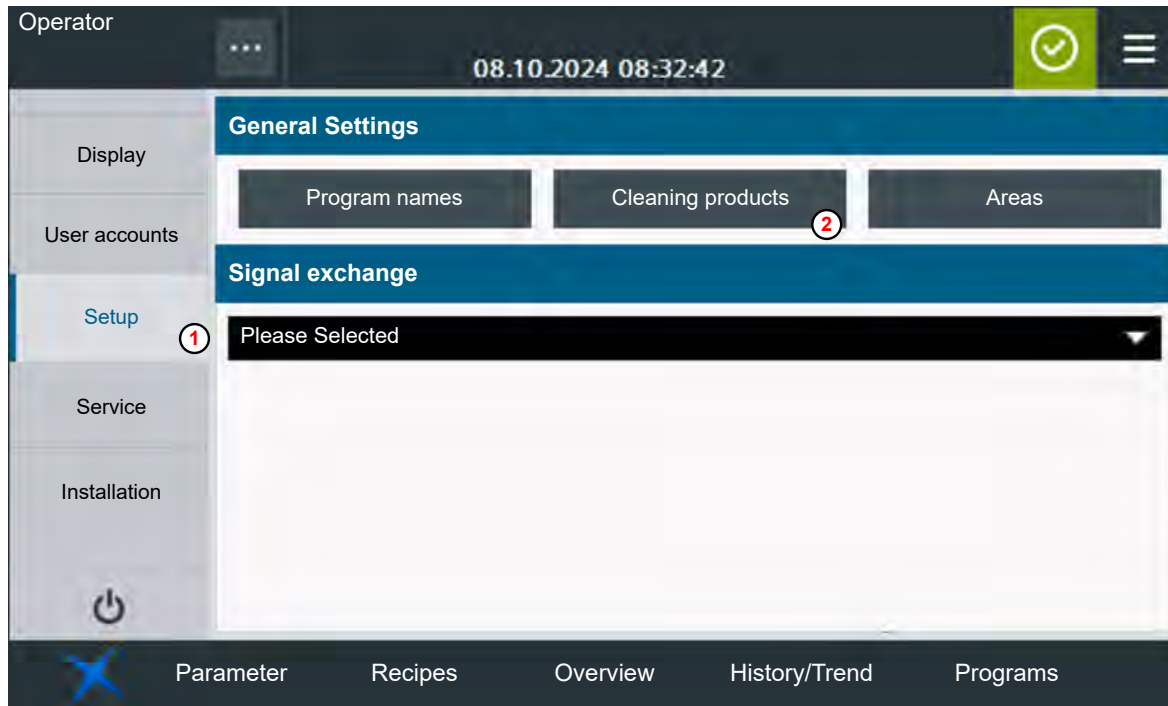

Fig. 94: [SetupSelect] - [Cleaning products]
1. ➤ [Setup] Press the] key as described under ➔ '[Settings] - [Setup] - [Cleaning products]' on page 156, (see Fig. 94, no. ①).
2. ➤ [Cleaning products] Press the] key as under ➔ '[Settings] - [Setup] - [Cleaning products]' on page 156, (see Fig. 94, no. ②).